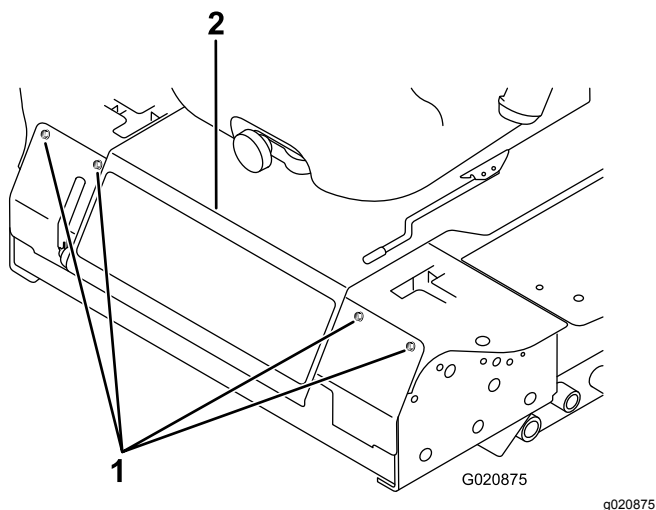

Figure 76
2. Remove the bolts securing the front panel and remove the panel (Figure 76).